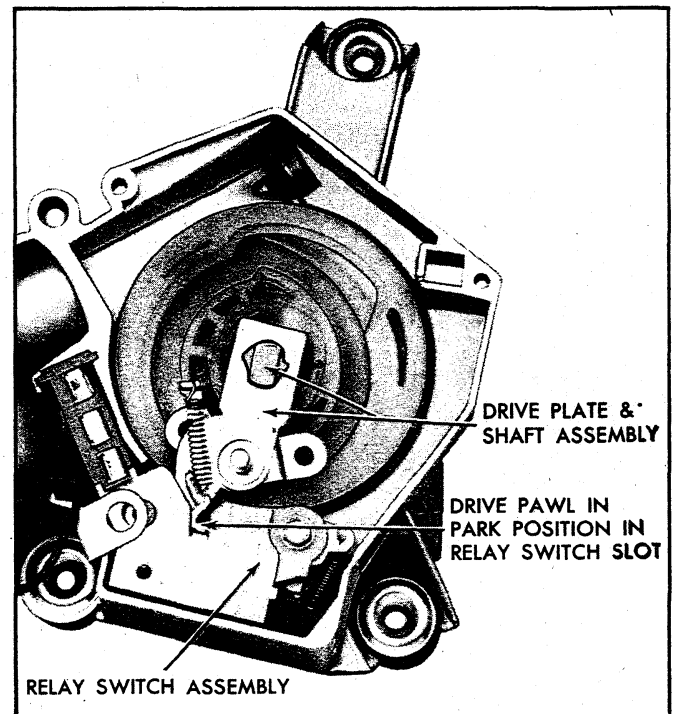

Fig. 79 - Drive Pawl in Full Park Position
2. If wiper pawl is in full park position (drive pawl located in magnetic switch assembly slot, fig. 79), it becomes necessary to remove gear assembly first (see Gear Assembly Removal).